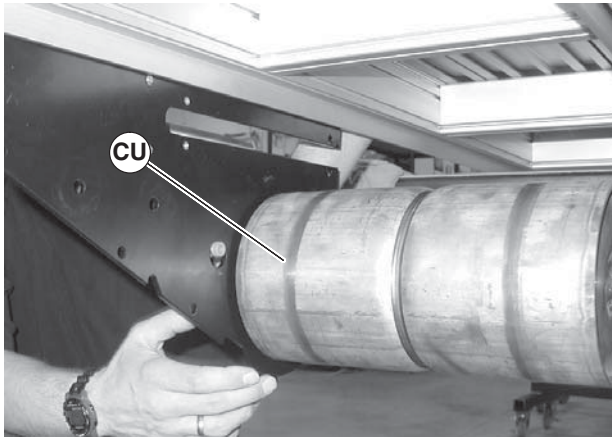

Figure 83
- Slide drive pulley (Figure 83, item CU) out of attached side plate.